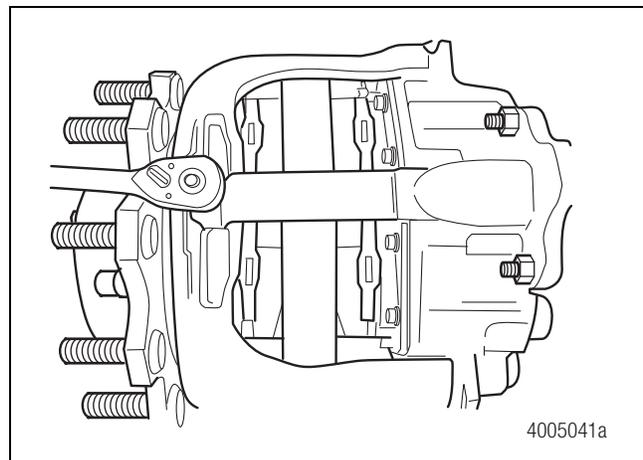

Figure 5.25
5. Install the pad retainer and pad retainer bolt. Tighten the bolt to 25-30 lb-ft (34-40 N•m). Figure 5.25. **ⓘ**